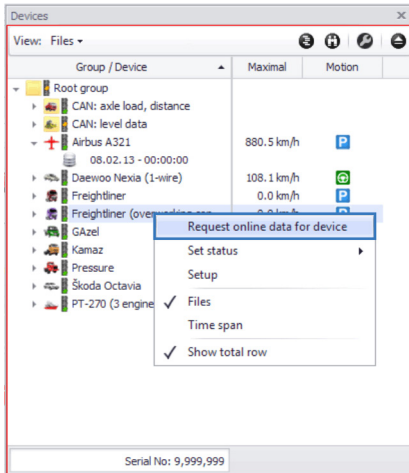

Fig. 56. Request device online data.
- The “Request online data for device ” command, if the vehicle is selected (**Fig. 56**).